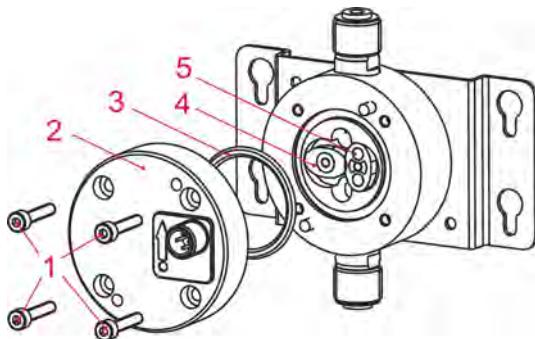

Fig. 4: Maintenance
1. Remove the four bolts (Fig. 4, Pos. 1) on the oval gear meter.
2. Remove the cover (Fig. 4, Pos. 2).
3. Remove the two oval gear wheels (Fig. 4, Pos. 4 + Pos. 5) and clean or replace them.
*It is recommended in all cases that the O-ring seal (Fig. 4, Pos. 3) between the cover and the housing should always be renewed.*
*Under all circumstances ensure correct seating of the oval gear wheels! The oval gear wheels must be inserted in such a way that they are offset to one another at precisely 90° (Fig. 4, Pos. 4 + Pos. 5).*